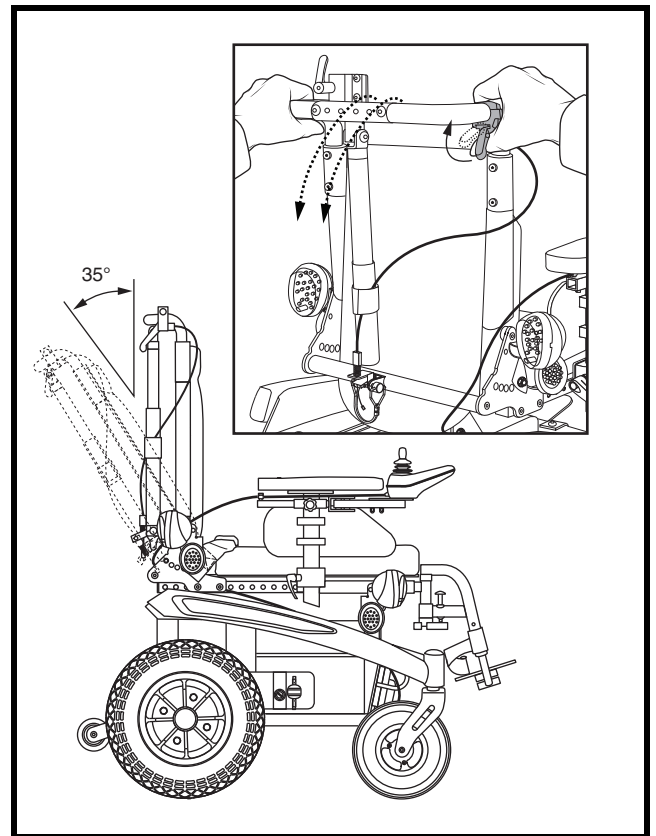

Figure 11. Manual Recline Seatback Adjustment
1. Squeeze the seatback release lever. See figure 11.